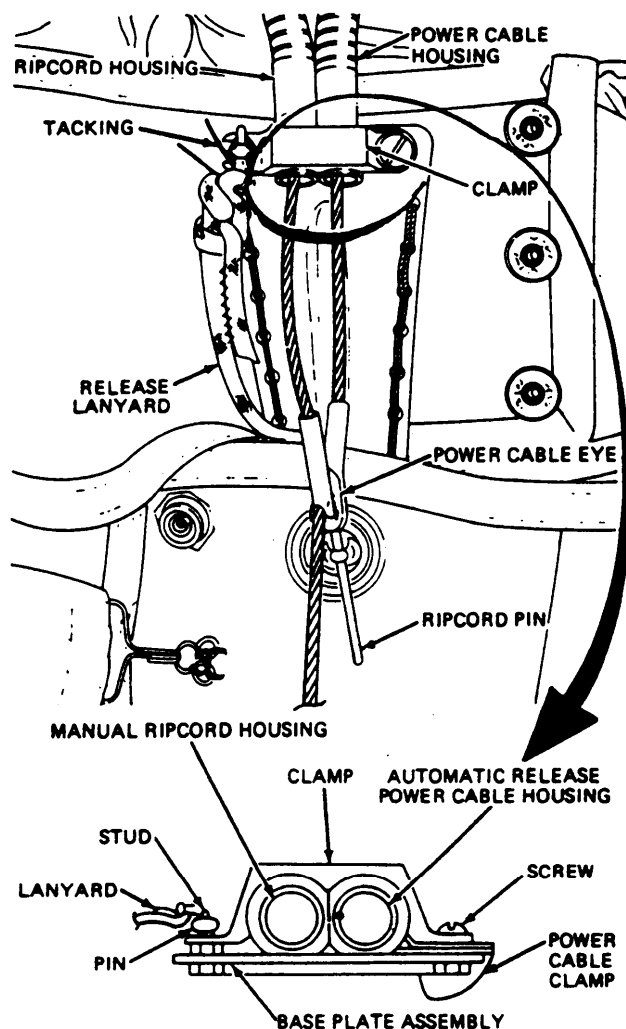

Figure 3-30.—Release lanyard assembly.
**ENSURE THAT THE BASEPLATE CLAMP IS POSITIONED OVER THE HEX NUT PRIOR TO INSTALLING THE LOCKING PIN (FIG. 3-30).**
Now, position the clamp over the end fitting of the power cable housing. Insert the baseplate screw through the clamp holes and into the right-hand baseplate hole so that the clamp flange fits over the end of the baseplate, shown in figure 3-30.